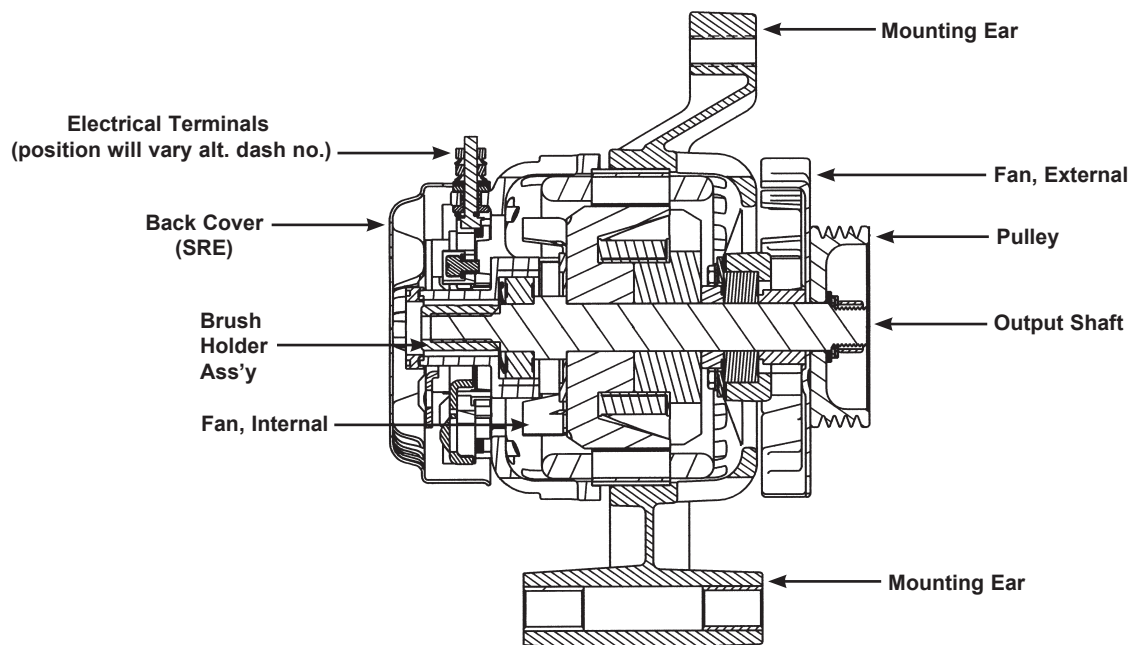

Fig. 2.3 - Typical Alternator Cutaway (Basic Components)
- F. The rotor assembly is supported by bearings at either end allowing the rotor to spin freely. The bearings are mounted in the DE and SRE housings. The stator assembly is so arranged within the DE and SRE housings as to align concentrically with the rotor assembly. The laminated iron core of the stator assembly surrounds the pole-shoes of the rotor assembly. The slip rings align with the brushes so as to allow one brush to contact one ring. See Figure 2.3.